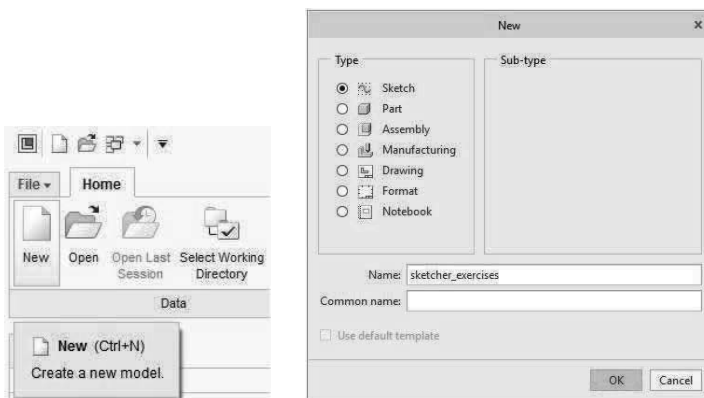

Figure 3-17 New Sketcher File
- Step 3:** Create a new sketch, named “sketcher_exercises” (Figure 3-17).